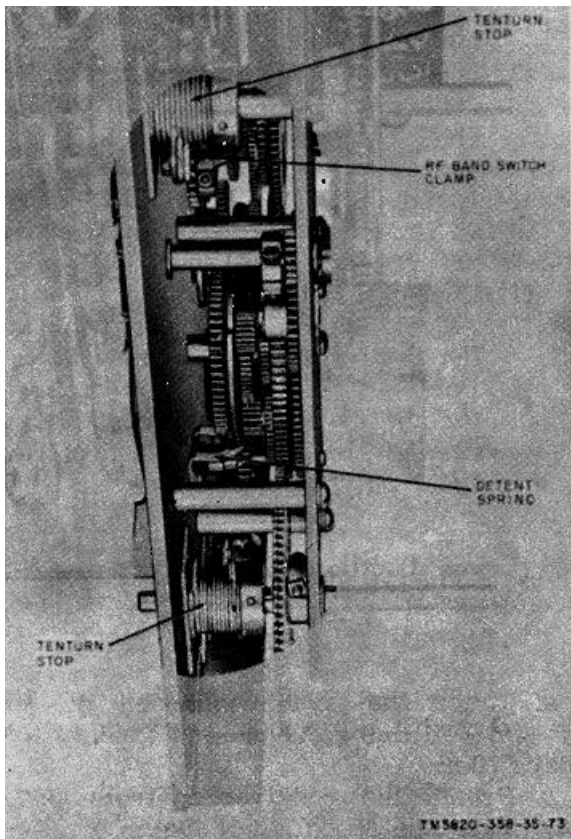

Figure 69. Location of rf band switch shaft clamp, detent spring, and ten-turn stops.
a. *Ten-Turn Stops.* Check the 10-turn stops (fig. 69) by rotating the MEGACYCLE CHANGE and KILOCYCLE CHANGE shafts fully counterclockwise. The first two digits on the frequency indicator should indicate halfway between 99 and 00 me (off the detent position). The next three digits should indicate between -963 and -972 kc.
- (4) Connect the TS-352(*)/U between pin 6 of XV207 and pin D of J208. The indication should be approximately 56,000 ohms.
- (5) Turn the MEGACYCLE CHANGE control to 08. The TS-352(*)/U should indicate an infinite reading.
- (6) If the indications are *not* as in (4) and (5) above, continue with procedures (7), (8), and (9).
- (7) Disconnect the TS-352(*)/U and reinsert V207.
- (8) Remove the front panel (para 58) and the rf subchassis (para 59).
- (9) Loosen the rf band switch clamp (fig. 69). Turn the band switch shaft until the rotors are centered on the contacts which provide the indications required in procedures (4) and (5) above. Tighten the rf band switch clamp.